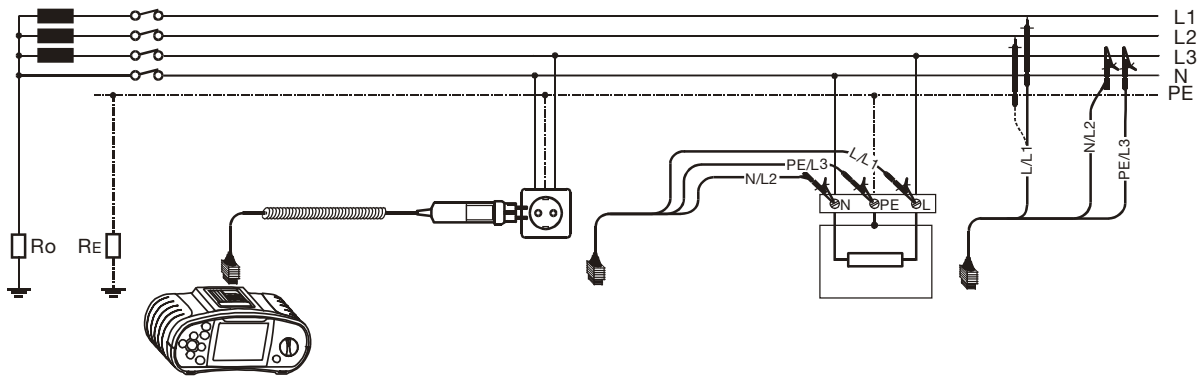

Fig. 5.34: Phase-neutral or phase-phase line resistance measurement
Step 3 Follow the connection diagram shown in figure 5.34 to perform phase-neutral or phase-phase line impedance measurement. Use the Help function if necessary.